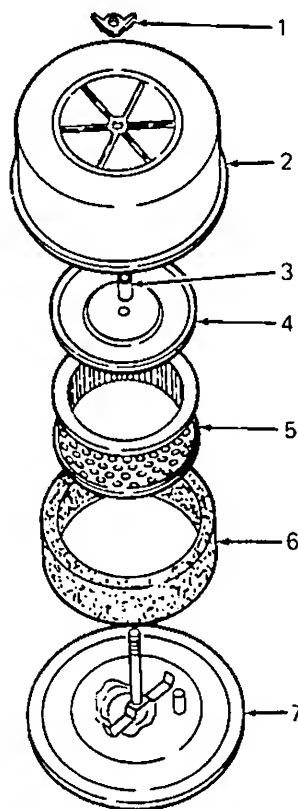

Figure 33. Air Cleaner Assembly
1. Remove wing nut and cover. (See Figure 33.)
This engine is equipped with a dry-type air cleaner element, which should be checked every 100 operating hours and replaced if dirty. It should be checked and if necessary replaced more often under extremely dirty, dusty conditions. Do not wash element in any liquid or attempt to blow dirt off with air hose as this will puncture filter element. Carefully handle new element — do not use if gasket surfaces are bent or twisted. Check the following when installing a new element: (See Figure 33.)